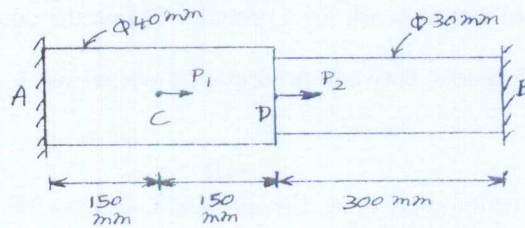

Fig Q2(c)
c. A stepped bar of steel, held between two supports as shown in Fig Q2(c), is subjected to loads  $P_1 = 80\text{kN}$  and  $P_2 = 60\text{kN}$ . Find the reactions developed at the ends A and B. (06 Marks)